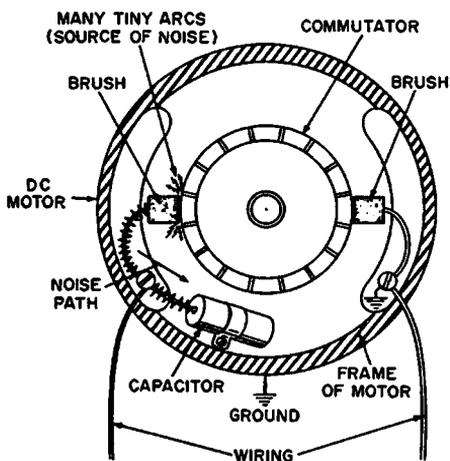

Fig. 2-5. Using a bypass capacitor to eliminate noise from a DC motor.
In Fig. 2-5 the noise source is the variable contacts between the carbon
In Fig. 2-5 the frame of the motor is grounded to provide a return path for the noise. With the bypass capacitor connected directly to the brush, the noise finds an easy low-impedance route back to the chassis. In other words, it takes the path of least resistance! For simplicity, we have used a DC motor, which ordinarily has one brush grounded to the frame. Many variations are found in commercial equipment. For example, if this were an AC motor, both brushes would be “hot,” so we would need two bypass capacitors, one for each brush; however, we could still ground the frame of the motor. (More about this in a later chapter.)
Let’s assume the brush noise in the motor of Fig. 2-5 is so bad that a simple bypass won’t stop it all. From Fig. 2-6 you can see that, although part of the noise is going through the bypass capacitor, there is still some left which is flowing happily off down the power wiring, looking for a radio or TV to get into. So, we use another kind of noise-reducing device called a choke, which is simply a coil of the proper inductance. The flow of the noise (AC) through the coil generates a back emf which opposes the noise. As a result the noise currents grow smaller and smaller, until they are all “choked out.” Meanwhile, the DC supply current is allowed to flow unimpeded.